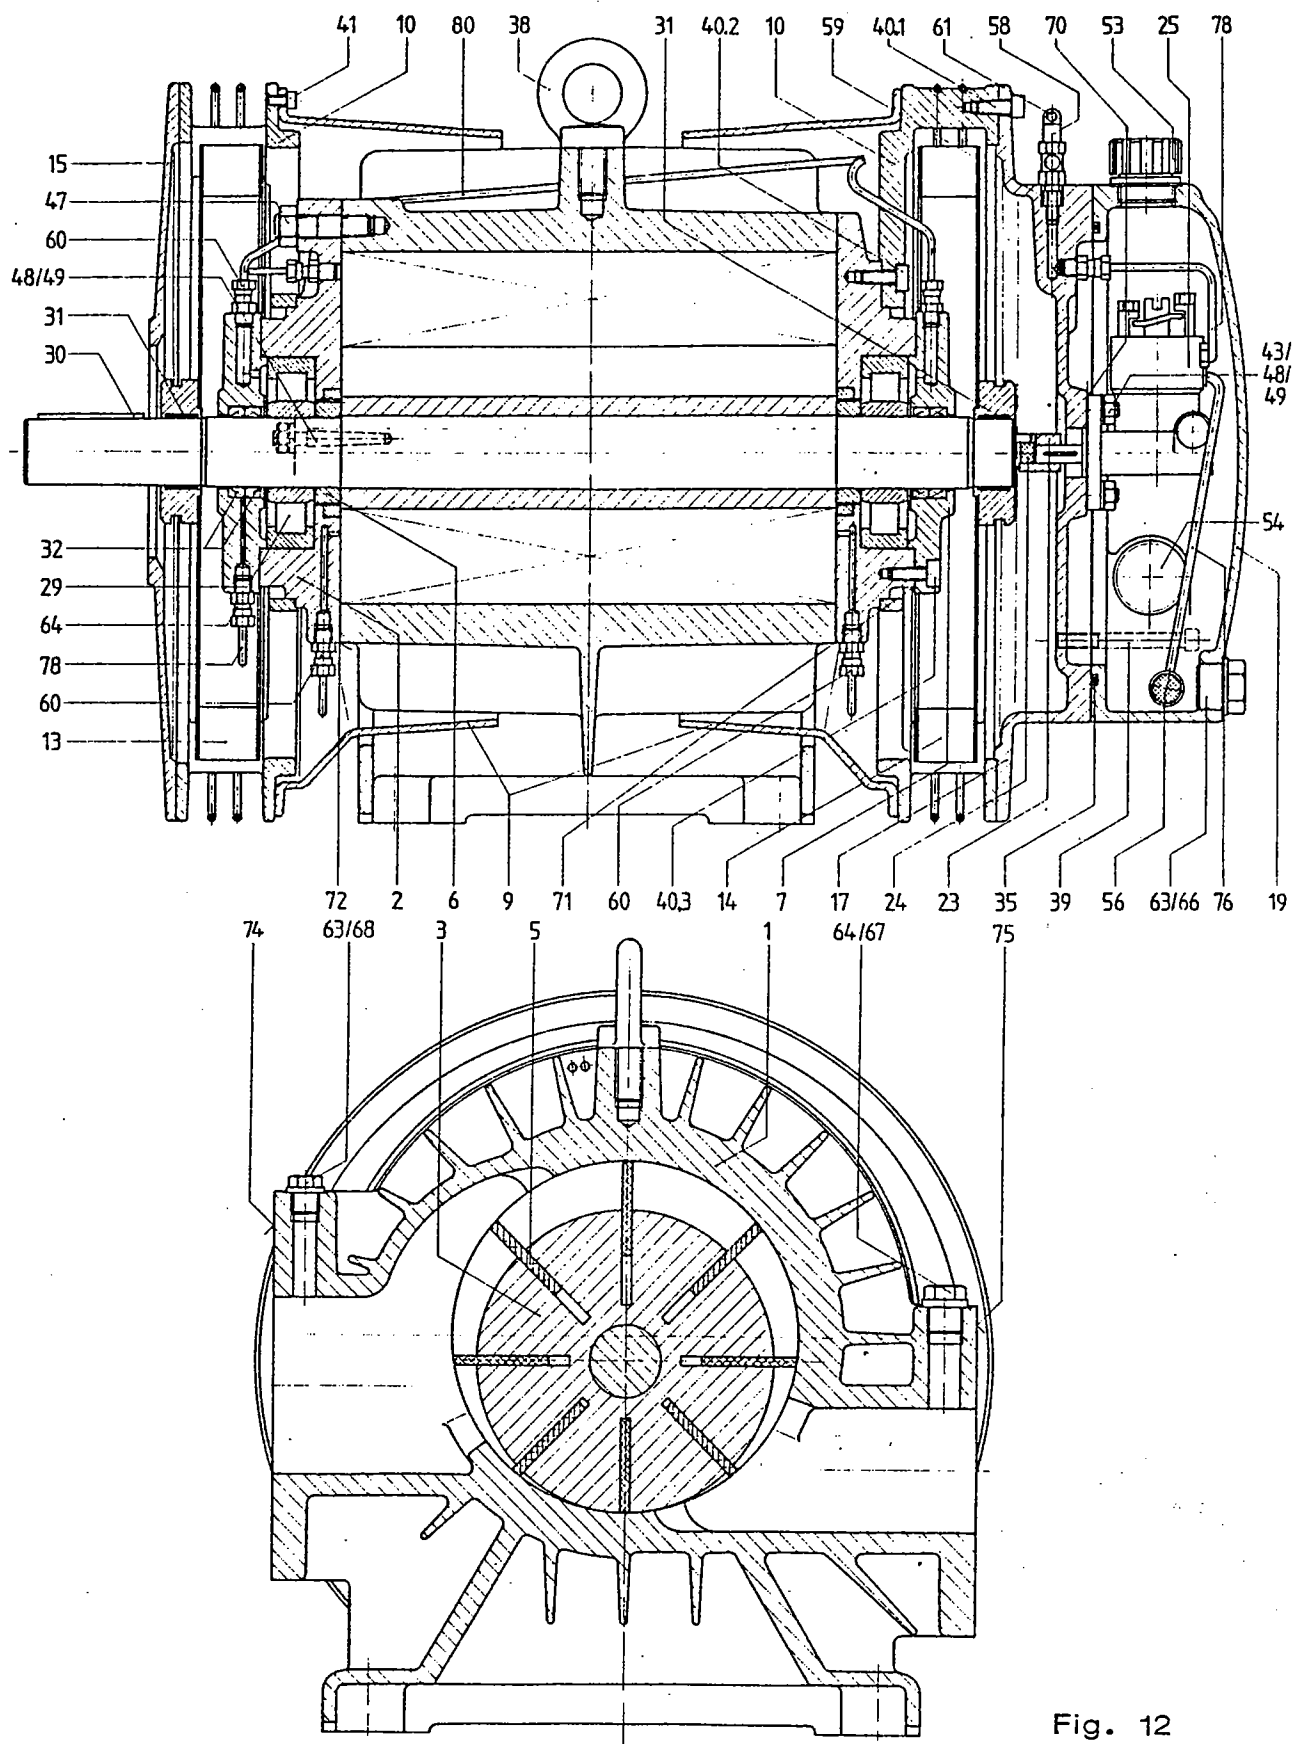

Fig. 12
5. Dismantling (position-numbers see Fig. 12)
## 5.2 End cover, housing cover, rotor vanes ( Fig.12 and 14 )
7. Assembly of the compressor (position numbers see Fig. 12)
## 7.1 Fan and fan cowling (Fig. 12 and 13)
## 7.2 Oil tank cover and oil tank (Fig. 12)